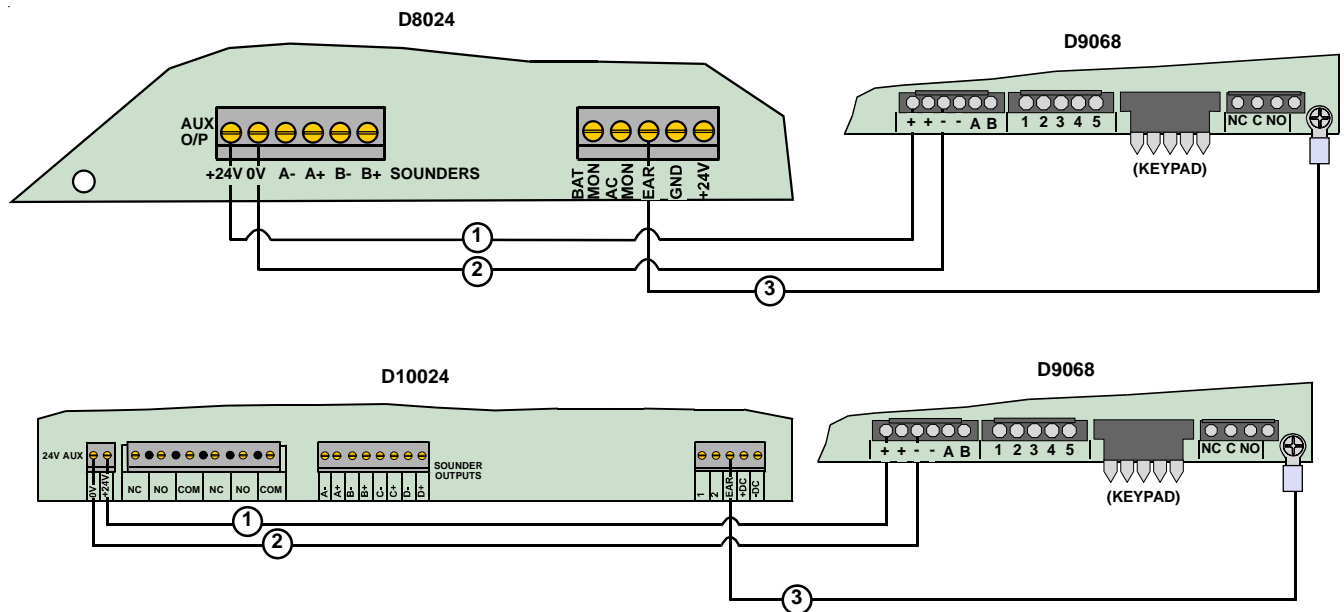

Figure 27: D9068 to D8024/D10024 Power Connections
- 1) Connect the D9068's Power (+) terminal to the FACP's +24 V Auxiliary power terminal. See Figure 27.
- 2) Connect the D9068's Power (-) terminal to the FACP's 0 V Auxiliary power terminal. See Figure 27.